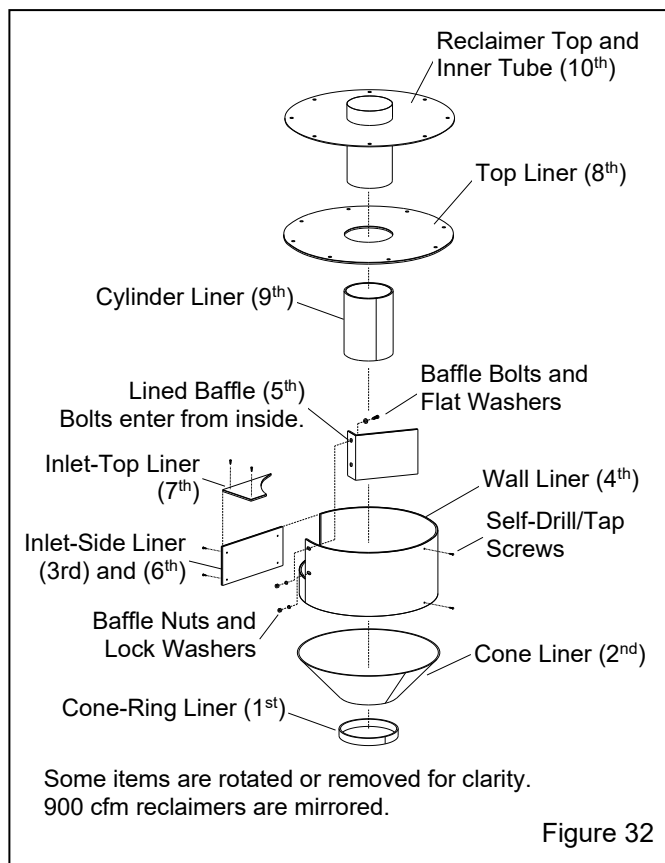

Figure 32
7.12 Replacing or Field Installing Optional Reclaimer Rubber Liners – Figure 32
The reclaimer must be designed to accept liners and have a removable top, as shown in Figure 32. **NOTE: The following instructions are to replace existing liners or field installing new liners into modular-style 600 cfm and 900 cfm reclaimers only. Modular reclaimers have an upper and lower flange and have a removable top. 600 cfm modular reclaimers are provided as of 09/2018.**
Installation Notes: The numbers in parentheses (-) shown in Figure 32 and in the following applicable paragraphs show the recommended order of installation. When installing the liners, make sure seams are aligned. The final assembly must be smooth and free of protrusions, edges, and gaps. Any edges will disrupt the air flow, causing wear and affecting the reclaimer's media cleaning efficiency.